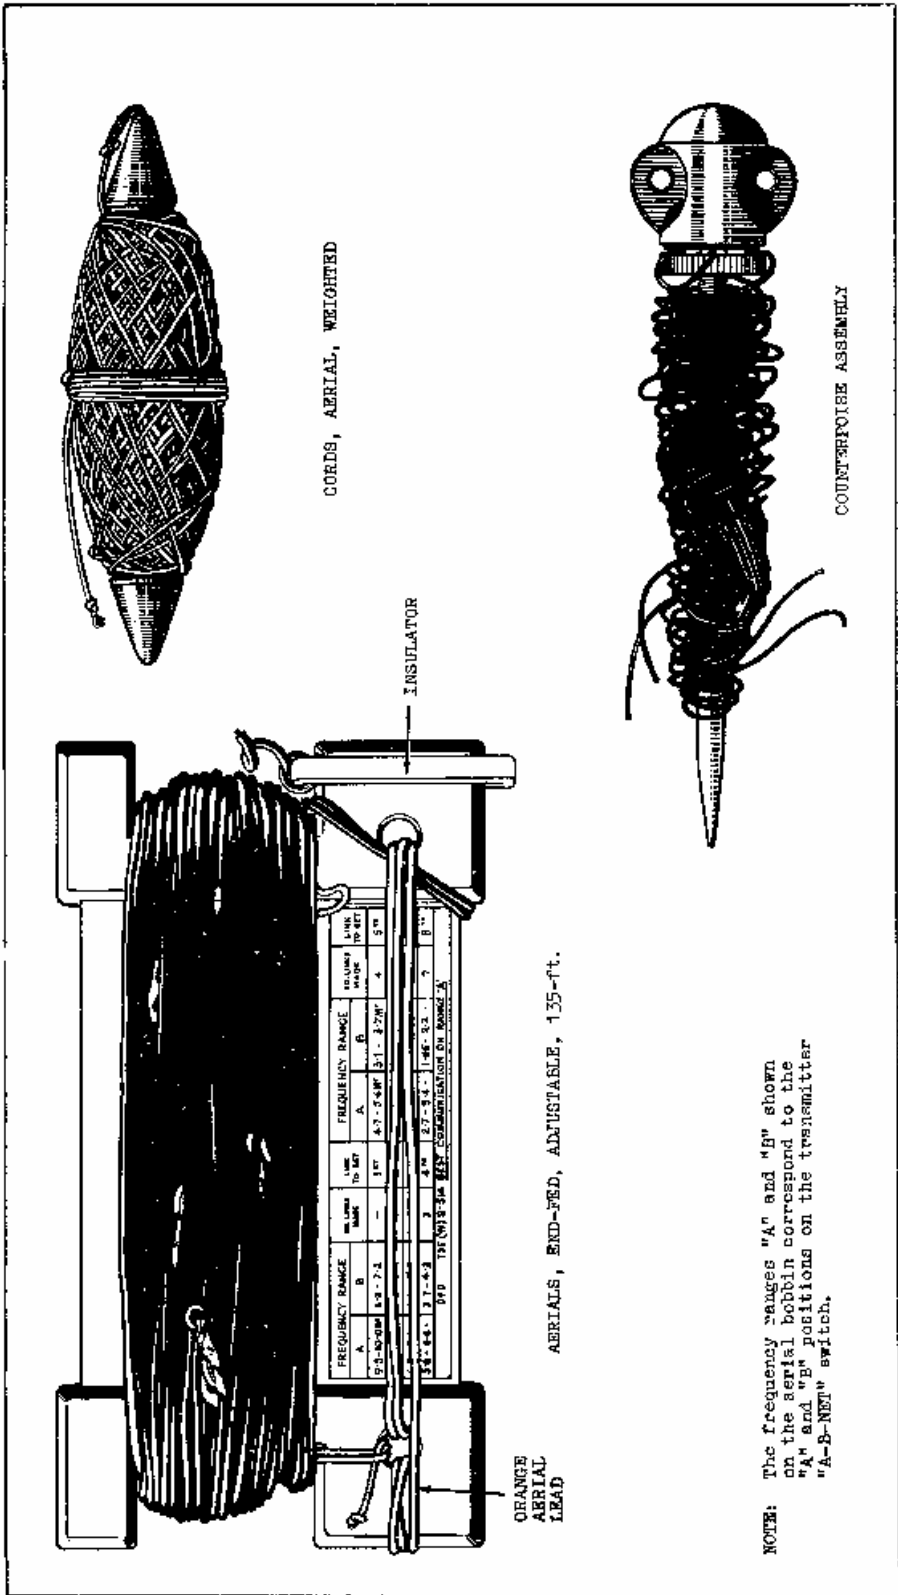
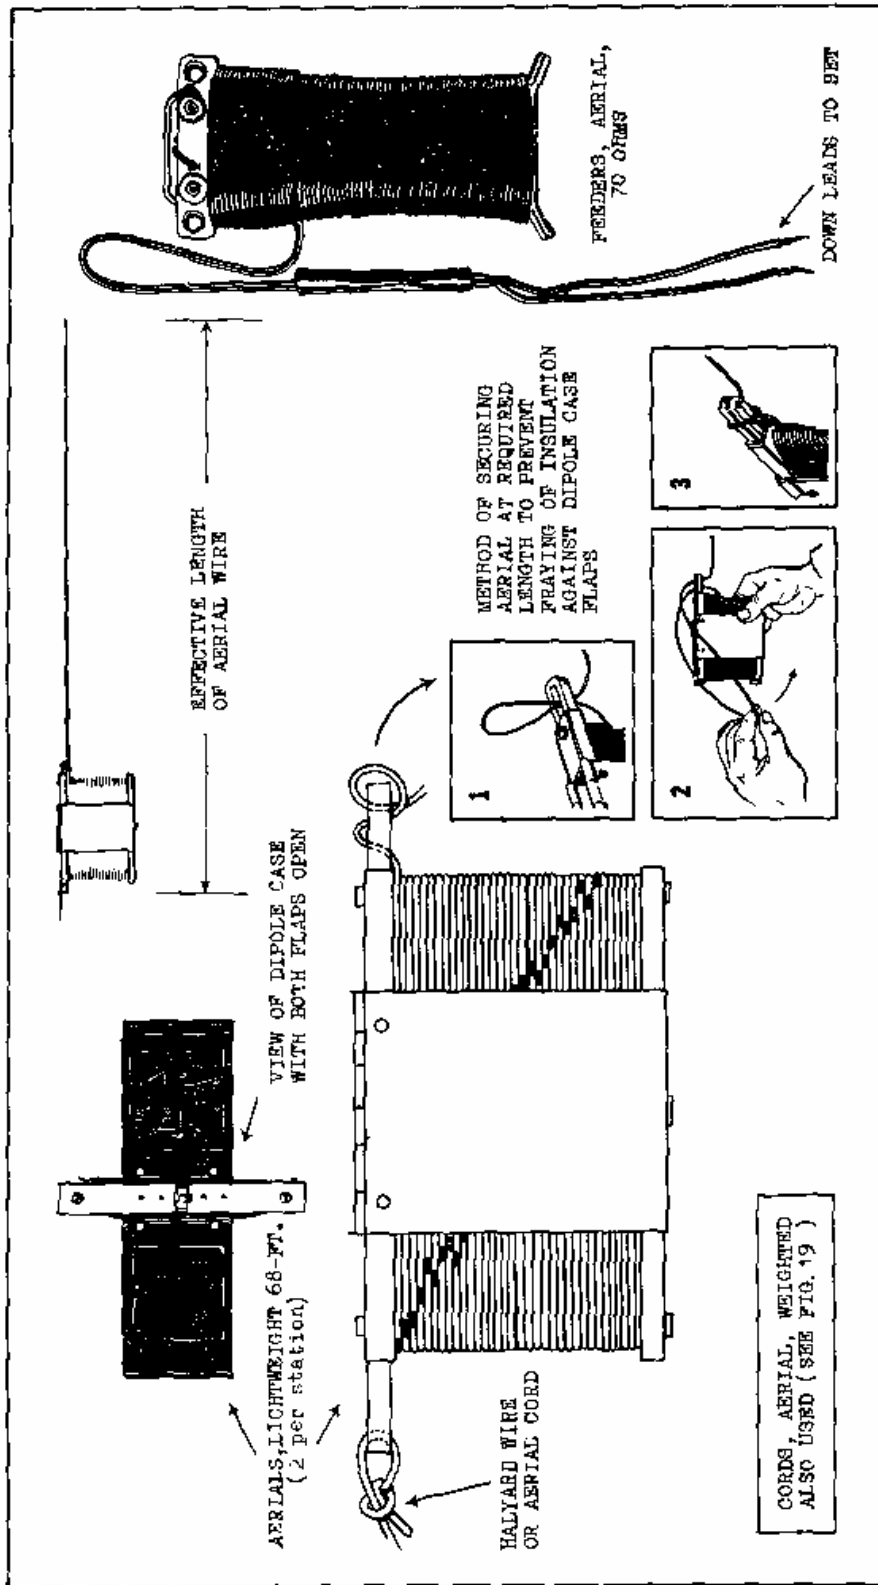

FIG. 19 -- END-FED AERIAL COMPONENTS
FIG. 22 - DIPOLE AERIAL COMPONENTS
60. The aerial and its accessories (except "Cords, aerial, weighted", which are already depicted in Fig. 19) are shown in Fig. 22.
- 3 : *The length of each dipole case should be included in the effective length of aerial. (See Fig. 22).*
- (d) If setting up between trees, unwind the aerial cord, and, using the bobbin as a throwing device, throw it over the highest possible branch of the lower tree. Attach the cord to the dipole case as shown in Fig. 22. Then move to the other tree, and select a branch on about the same level as that of the lower tree. (This is to ensure that the aerial is as near the horizontal as possible.) Repeat the drill with the other bobbin.
- (e) If setting up between masts, attach the halyards to the dipole cases as shown in Figs. 22 and 23.